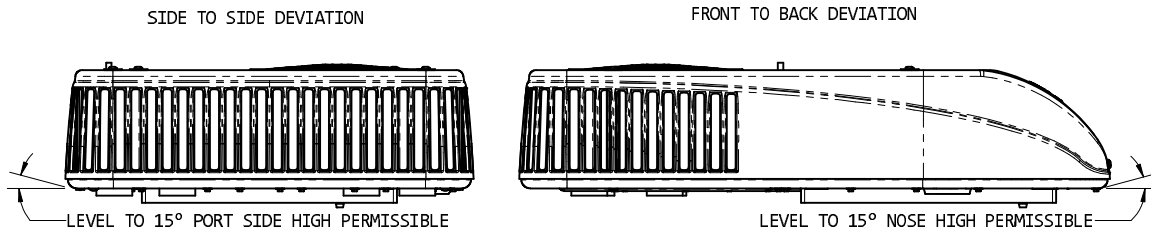

**FIGURE 2**
- D. The roof top air conditioner must be mounted as near level from front to rear and side to side as is possible when the vehicle is parked on a level plane. Figure 2 shows maximum allowable degree deviations (mounting degrees from total surface flat plane).